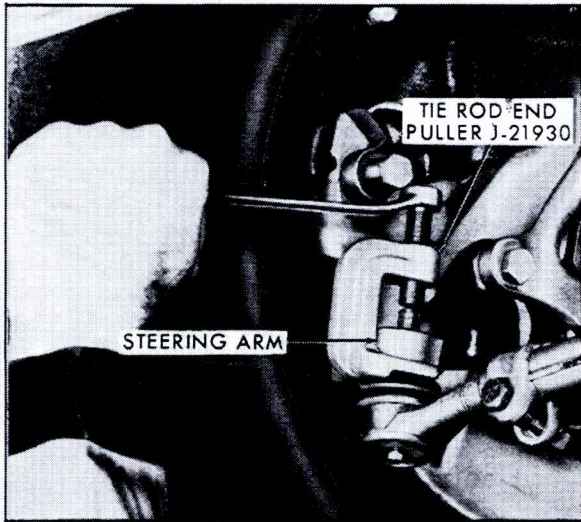

Fig. 3-26 Removing Tie Rod Joint Stud From Steering Arm
8. Remove tie-rod joint stud from steering arm, using Tie-Rod End Puller J-21930, Fig. 3-26, and remove steering arm.